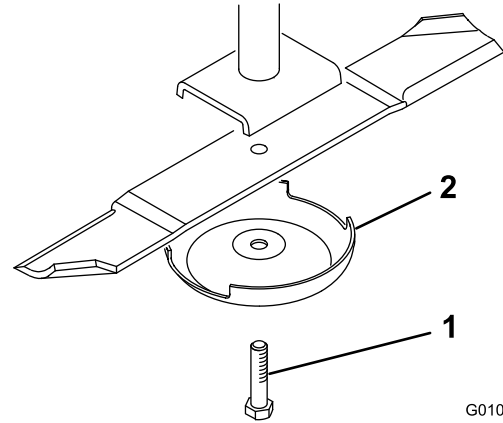

Figure 28
2. Grasp the end of the blade using a rag or thickly padded glove. Remove the blade bolt, anti-scalp cup, and blade from the spindle shaft (Figure 28).